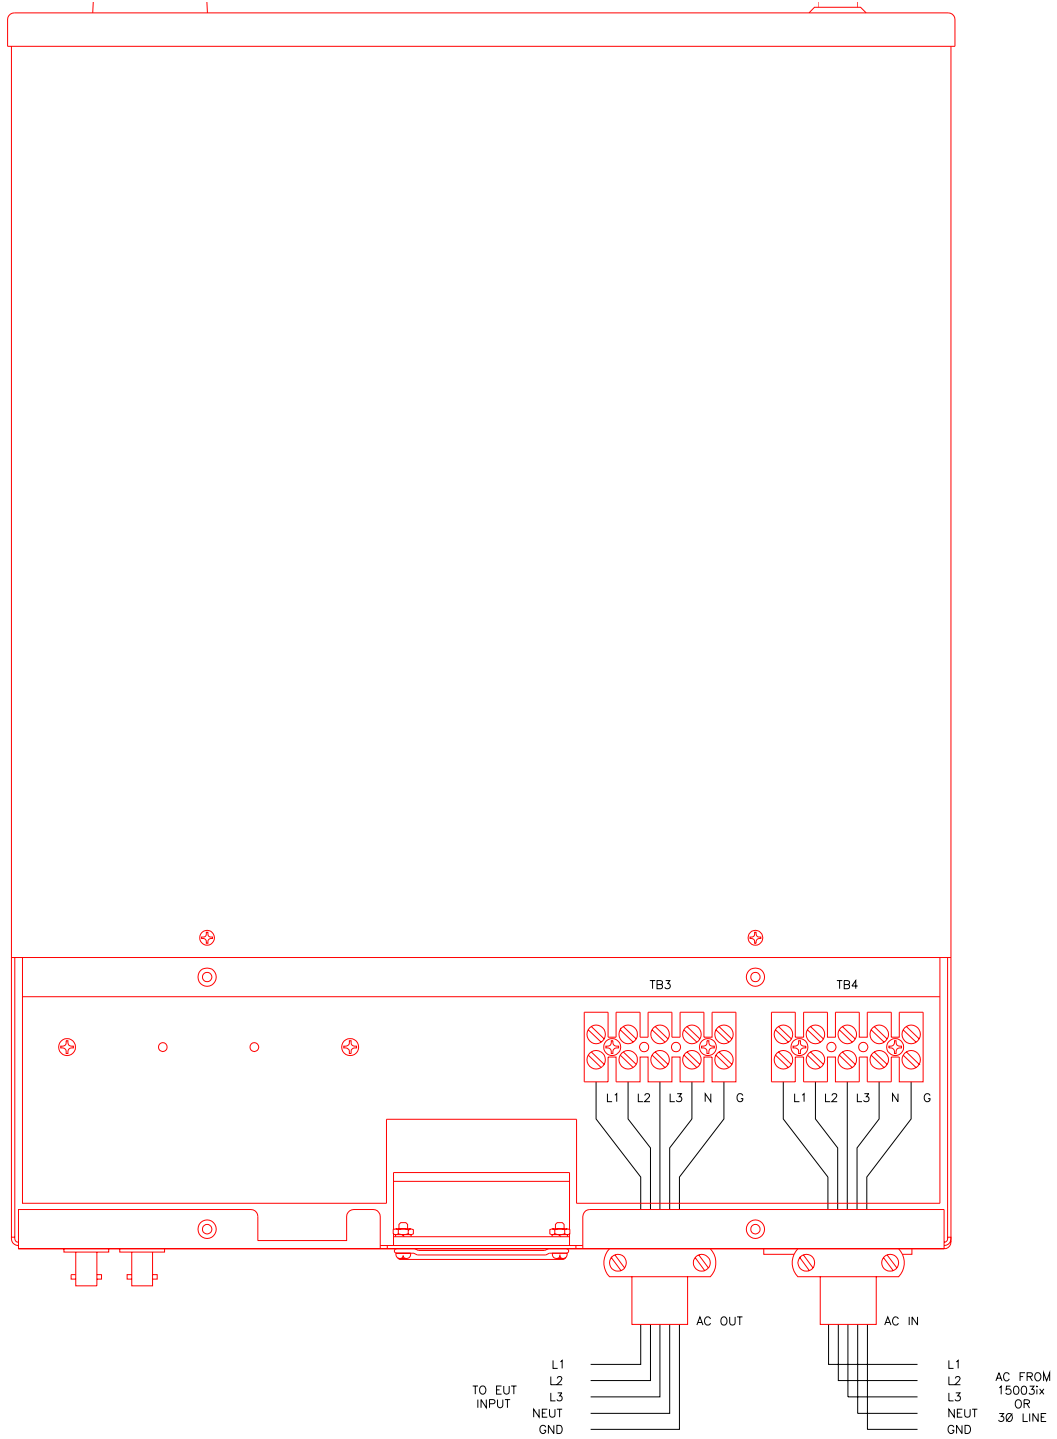

Figure 3-8: Power Connections for PACS-3-75
**Caution:** Be sure to replace the small rear top cover on the PACS-3-75 unit after the wiring has been installed, otherwise insufficient cooling of internal components may result. Refer to Figure 3-8.